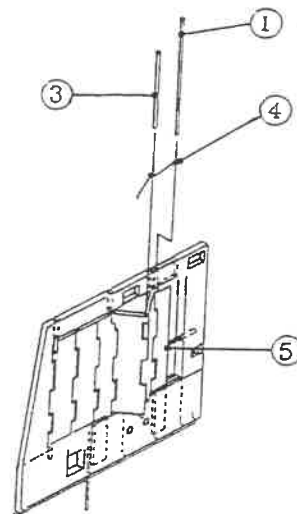

Figure 2
4. Align the new kicker spring (see 4, figure 2), rear knuckle pin (see 3, figure 2), and rear shuttle pin (see 1, figure 2) as shown in figure 2 below.
IMPORTANT: Use caution not to bend the horizontal pin (see 5, figure 2).